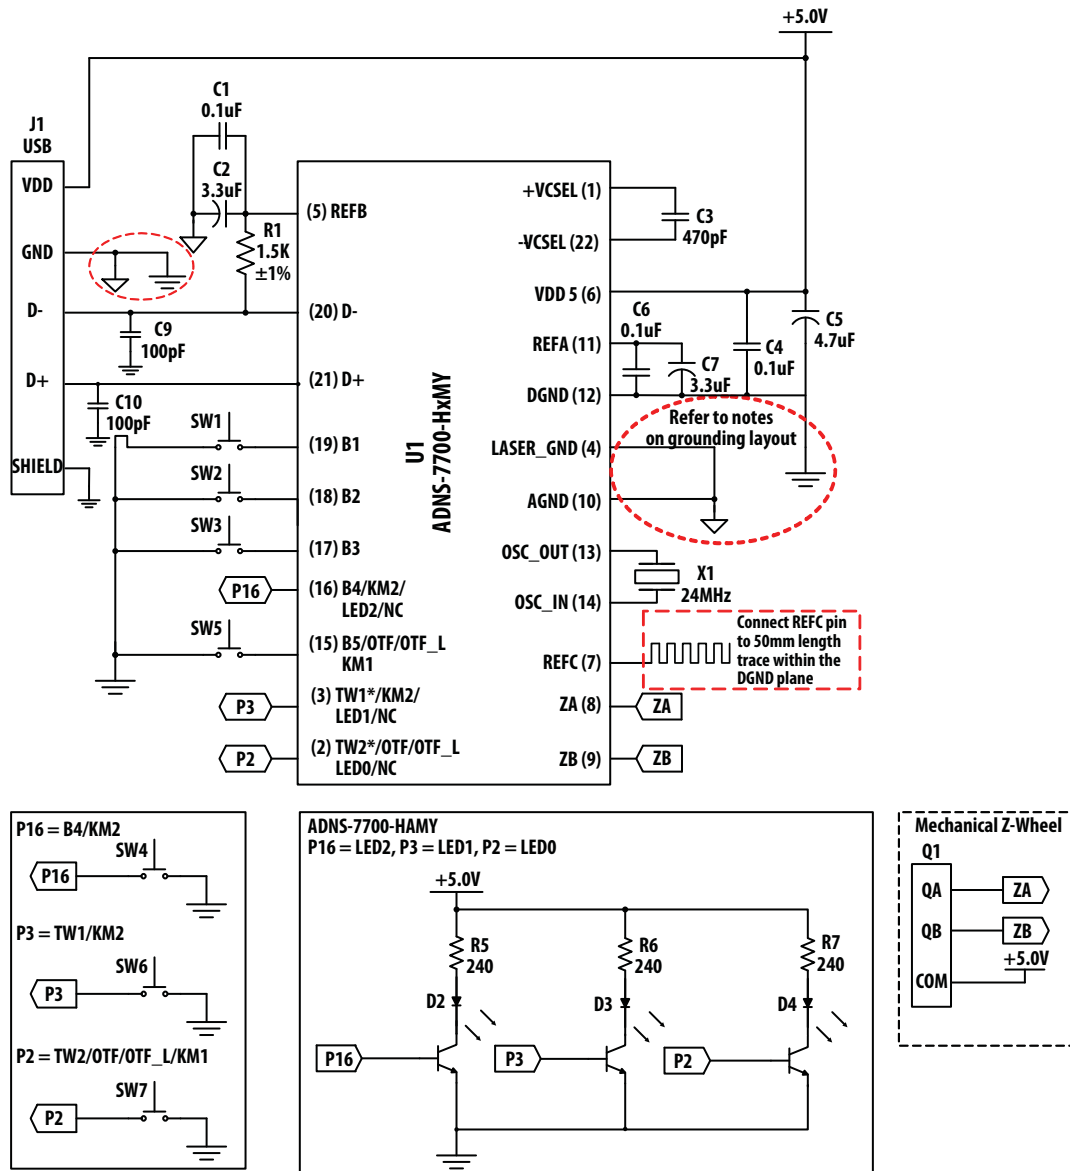

Figure 6. ADNS-7700 Sensor's Application Schematics
ADNS-7700 sensor and the associated components in the schematic of Figure 6 are intended to comply with Class 1 Eye Safety requirements of IEC/EN 60825-1. Avago Technologies calibrate sensor laser output power (LOP) to Class 1 eye safety level prior shipping out, thus no laser output power calibration is required at mouse manufacturer site.
ADNS-7700 sensor is designed to maintain the laser output power using ADNS-6180-002 lens within Class 1 requirements over components manufacturing tolerances under the recommended operating conditions and application circuit of Figure 6 as specified in this document. Under normal operating conditions, the sensor generates the drive current for the VCSEL. Increasing the LOP by other means on hardware and software can result in a violation of the Class 1 eye safety limit of  $716 \mu\text{W}$ . For more information, please refer to Eye Safety Application Note.
1. The system is operated based on the recommended application circuit in Figure 6 and within the recommended operating conditions.